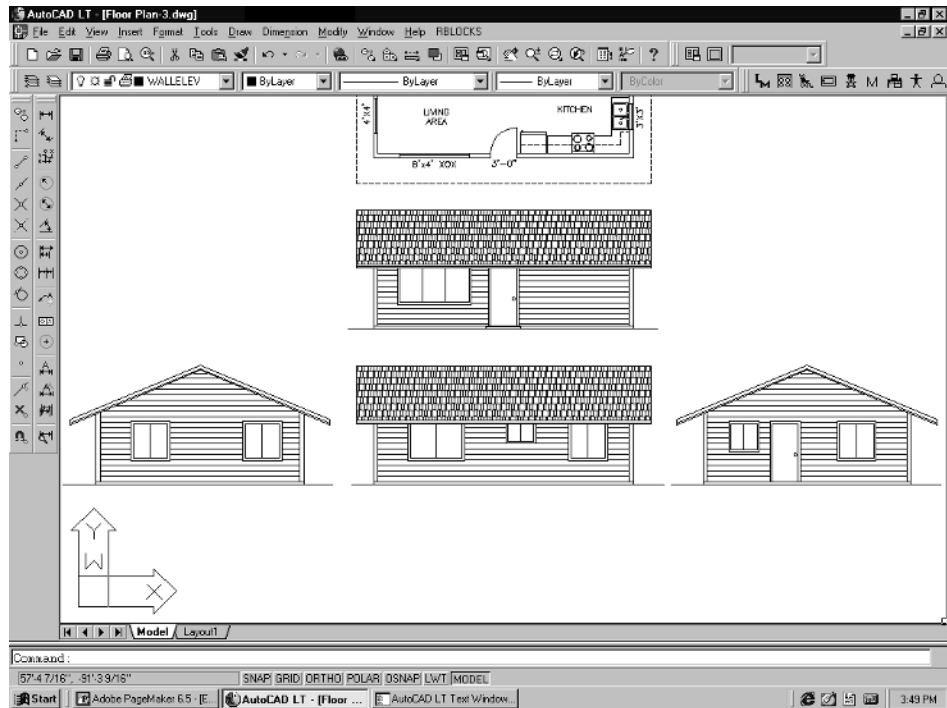

Figure 4-60
- Go ahead and apply the rest of the hatching to the other elevation walls. You will probably run into the same problem with the other side elevation, so just follow the same steps to remove the inner window lines from the boundary set. The finished elevations should look like Figure 4-60.